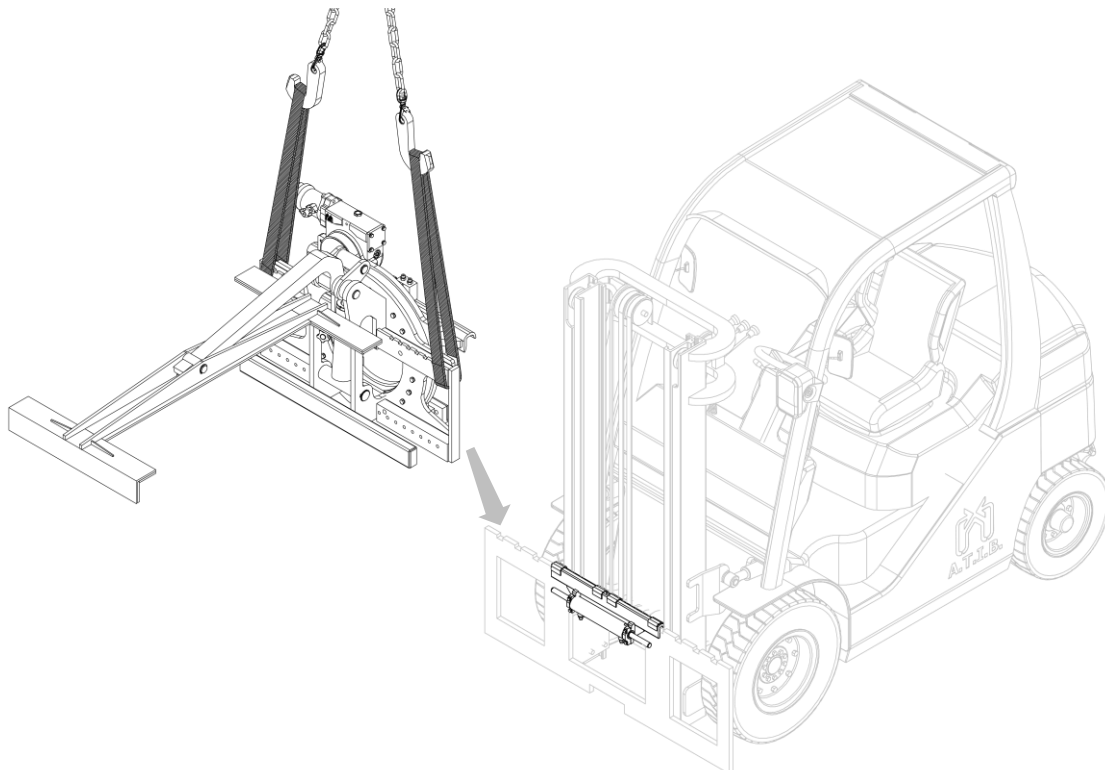

Figure 8
7. Using an overhead crane or hoist of sufficient capacity, place the equipment on the dual coupling, taking care to position it correctly (see *Figure 8*).
4. Then lift the equipment using an overhead crane or hoist of sufficient capacity and remove it from the forklift (see *Figure 3 and Figure 8* on page *11 and 15*).